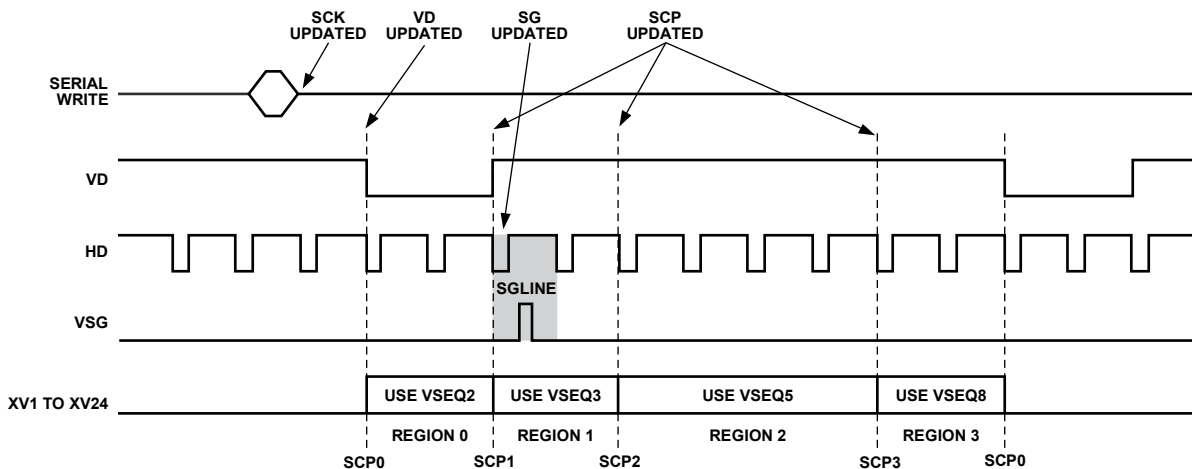

Figure 101. Register Update Locations (See Table 47 for Definitions)
- **SCP Updated**—At the next SCP where they are used, the V-pattern group and V-sequence registers are updated. For example, in Figure 101 this field has selected Region 1 to use VSEQ3 for the vertical outputs. This means that a write to any of the VSEQ3 registers, or any of the V-pattern group registers, which are referenced by VSEQ3, updates at SCP1. If multiple writes are done to the same register, the last one done before SCP1 is the one that is updated. Likewise, register writes to any VSEQ5 registers are updated at SCP2, and register writes to any VSEQ8 registers are updated at SCP3.
It is recommended that the registers in the configurable address area not be written within 36 pixels of any HD falling edge where a sequence change position (SCP) occurs. See Figure 91 and Figure 92 for an example of what this inhibit area looks like in master and slave modes. This restriction applies to the V-pattern, V-sequence, and field registers. As shown in Figure 101, writing to these registers before the VD falling edge typically avoids loading these registers during SCP locations.